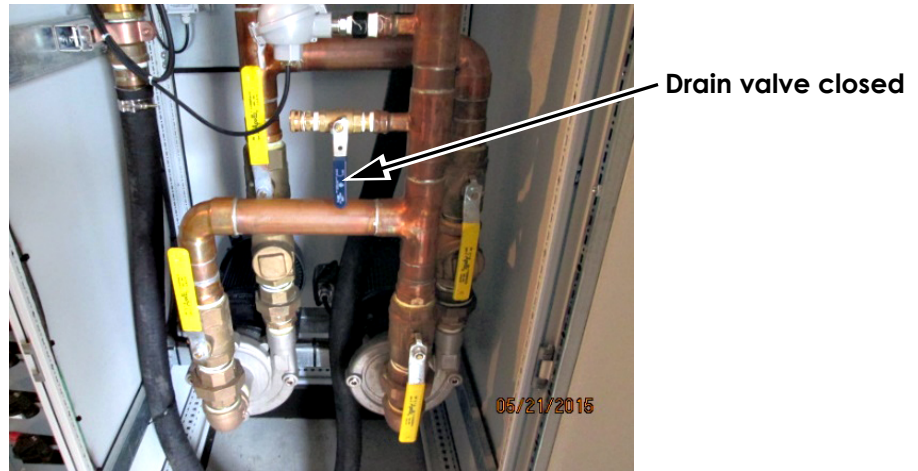

Figure 6: Drain valve closed
11. Ensure that the drain valve is closed. See Figure 6.